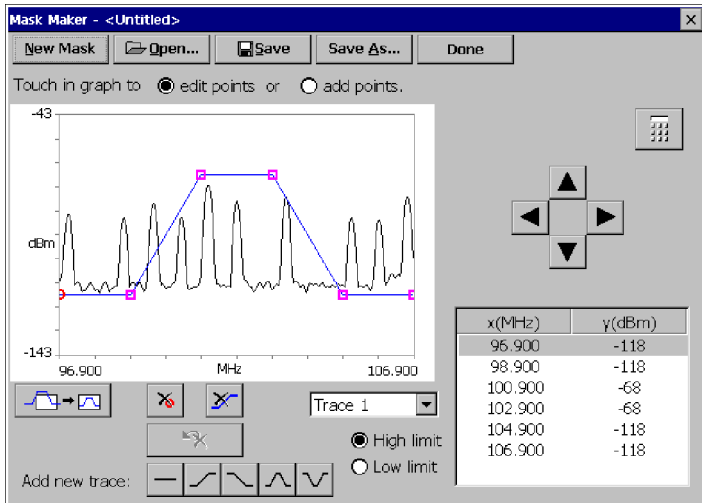

Figure 3-18: The Mask Maker utility
3. From the **Tools** menu, select **Mask Maker**. This displays the Mask Maker utility. See Figure 3-18.